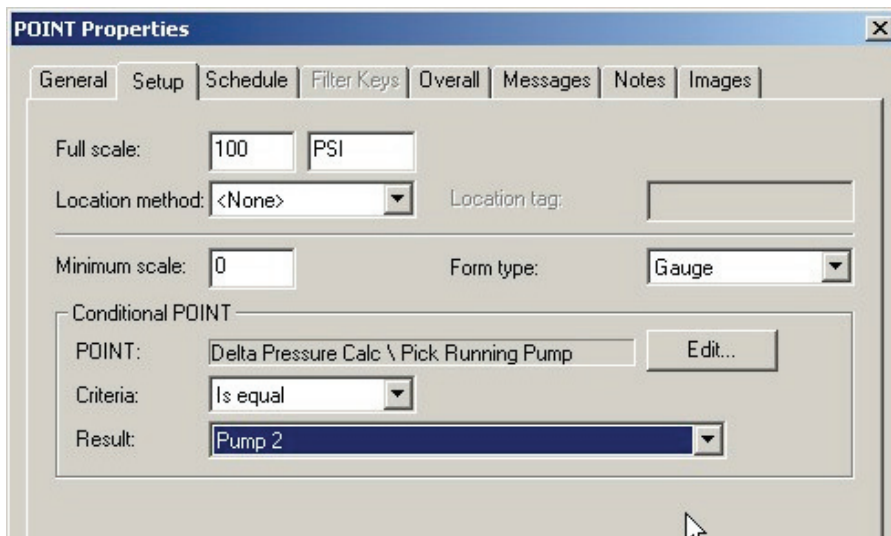

Figure 6. POINT setup for second conditional POINT.
- For sequential dependent POINTs using the same conditional POINT (as in our previous example), the conditional POINT field remembers the last conditional POINT specified, facilitating faster setup (→fig. 6).